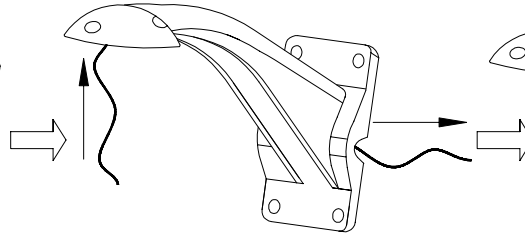

Figure 10
7) Take out system control wires from the bracket ( Figure 10 ) .